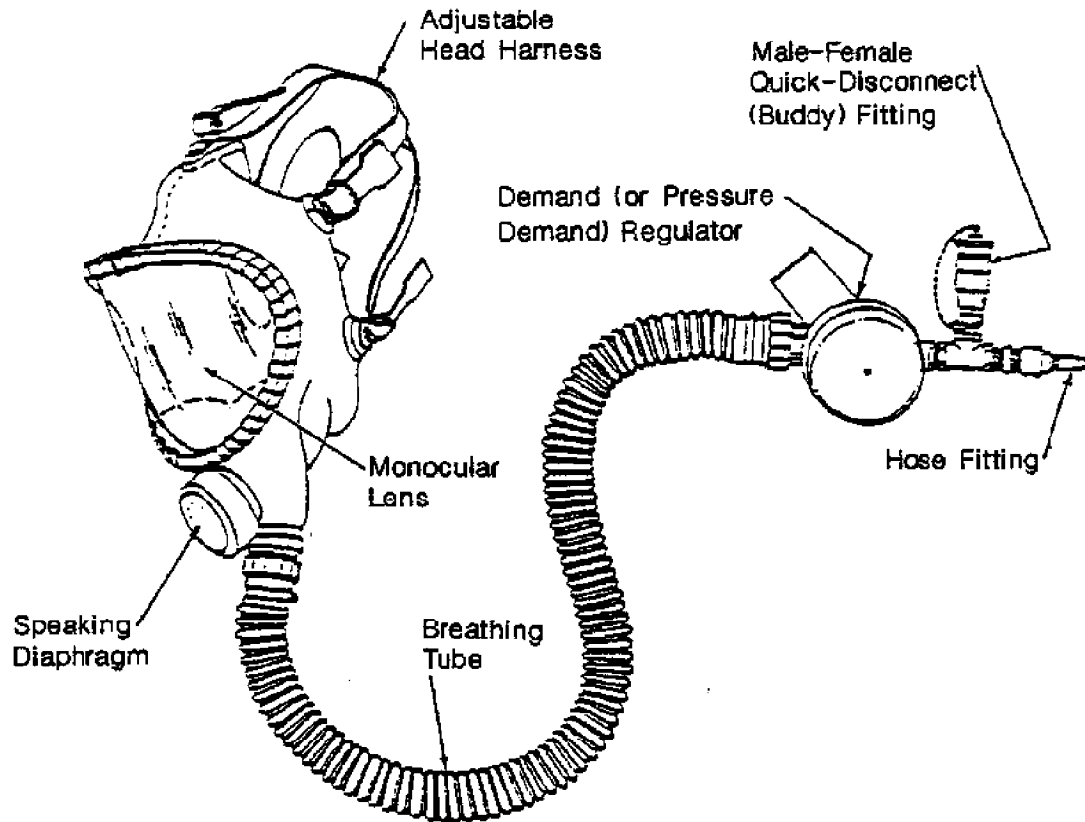
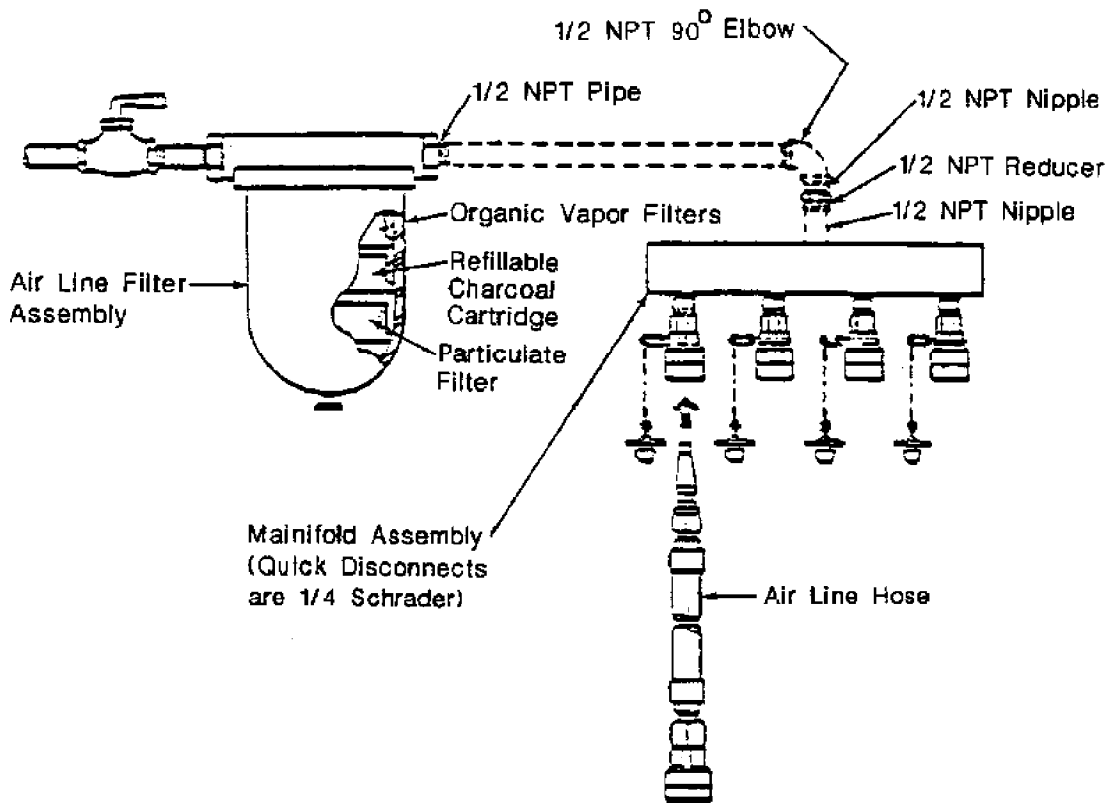

Figure 077-3-9. Air-Line Mask With Buddy Fitting
Figure 077-3-10. Air-Line Mask Station
**077-3.5.1 OVERVIEW.** Many surface ships and submarines have Emergency Air Breathing (EAB) stations that supply air to air-line masks for use in atmospheres contaminated by smoke, toxic vapors, fumes, gases, or dust. EAB stations are permanently installed. The stations shall be clearly and visibly labeled and posted operating instructions shall be provided. Airline masks plug into the EAB station for emergency breathing air supply. The mask is illustrated in Figure 077-3-9 and the EAB station is illustrated in Figure 077-3-10.
**077-3.5.4 EMERGENCY AIR BREATHING STATIONS.** As illustrated in Figure 077-3-10, the supply air line contains an air filter assembly. This assembly is located before the air-line mask quick-disconnect manifold station. The filter consists of a particulate element and refillable charcoal cartridge.
**077-3.5.7.2** It may be necessary to use a number of air-line masks at a location where only one air supply connection is provided. To permit use of more than one mask, a two or four valve manifold is provided. The air-line mask manifold is illustrated in Figure 077-3-10. One additional mask can also be attached to the buddy fitting of each air-line mask in use (see Figure 077-3-9). The buddy system is employed when two people have to breathe from one manifold supply fitting.